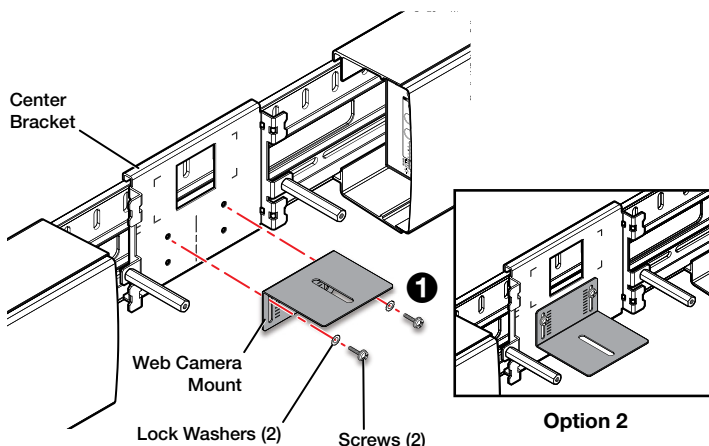

Figure 16. Inverting the Webcam Shelf
1. Install the webcam shelf by attaching it to the center bracket using two screws going through the two vertical slots on the shelf and into two mounting holes in the bracket. There are two pairs of available holes in the bracket. The shelf height can be adjusted by positioning the screws in the shelf slots (see figure 16, ①).
NOTE: For cameras that require more overhead clearance, the webcam shelf can be inverted (see figure 16, Option 2).